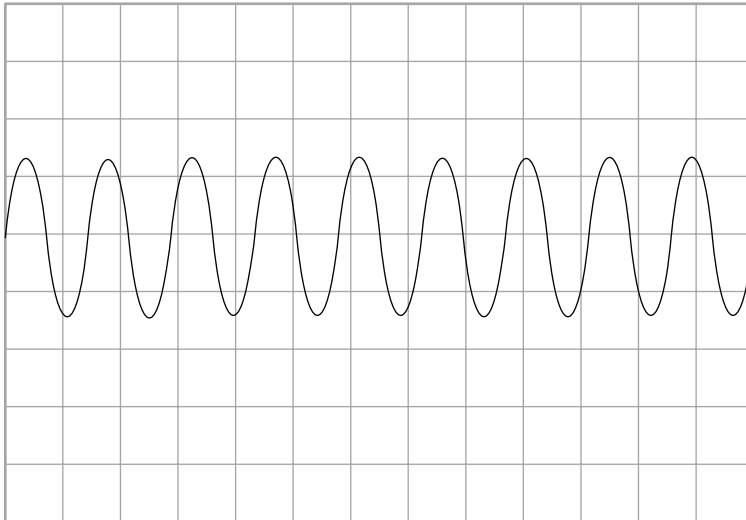

Figure 10-5:
The job of the oscilloscope is to visually represent an electrical signal, either alternating current (AC) or direct current (DC). An oscilloscope shows variations in voltage as a bright line drawn on the display, as you can see in Figure 10-5.